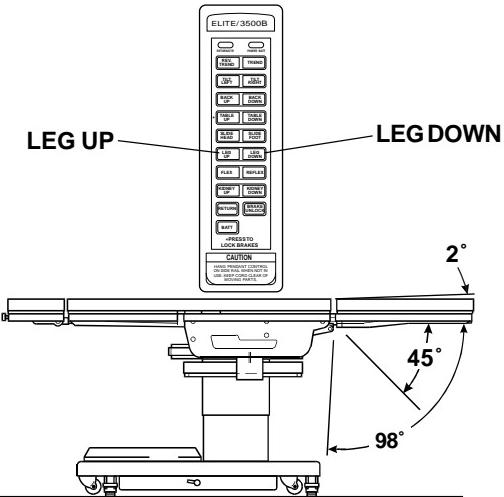

Figure 3-12. Leg Section Positioning
**g. Leg Section.** To lower the leg section, press the LEG-DOWN button (figure 3-12). The leg section will go down to 98° below horizontal. To raise the leg section, press the LEG-UP button. The leg section will go up to 2° above horizontal.